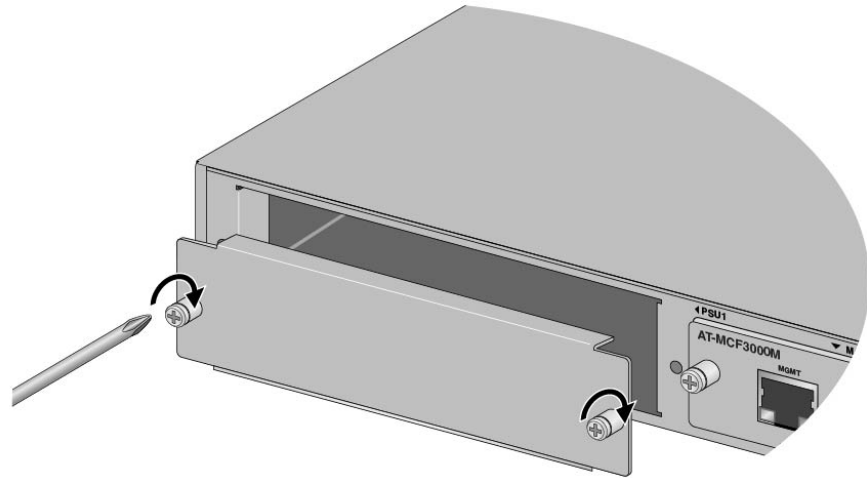

Figure 76. Installing the Blank Cover on the Power Supply Slot
8. If you are not installing a replacement power supply now, install the blank slot cover. Refer to Figure 76.
9. If you are not installing a replacement power supply now, install the blank slot cover. Refer to Figure 76 on page 114.